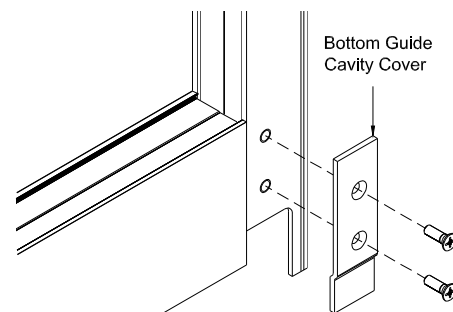

Figure 24
7. Remove bottom guide cavity cover from bottom of front stile. Save screws for reinstallation (See Figure 24).
9. Remove bottom guide cavity cover from bottom of front stile. Save screws for reinstallation (See Figure 24).